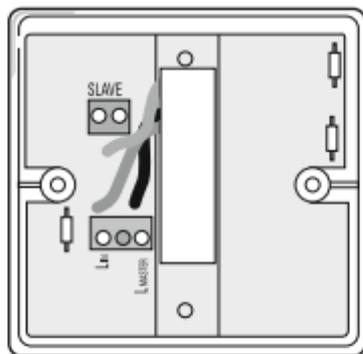

Fig 4 – Rear of DSS
4. On the rear of the DSS shown in figure 4 you will notice terminals "L in (Live)" and "L master (Live feed to the next unit)"; connect the 230V AC 50Hz mains supply to terminal "L in (Live)" and the live feed cable to the next unit "L master)" making sure that the cables are sleeved appropriately and polarities checked.